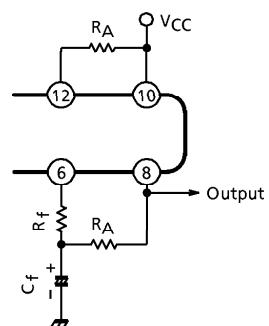

Fig.3
1) In case of the battery use ( $V_{CC} \leq 6V$ ), this IC is happen to oscillate (blocking oscillation) when the impedance of power supply is high. In this case, it is recommended to insert the resistance  $R_A$  of  $500\Omega \sim 1k\Omega$  between ⑩pin and ⑫pin ( $V_{CC}$  – Filter II). By this method, this IC becomes very stable. But the output DC voltage is not center by the influence of  $R_A$ . Then the output wave shape is not symmetrical clipping wave and the maximum output voltage is reduced. So we recommend to insert the other resistance  $R_B$  between ⑥pin and ⑧pin for compensating the output DC voltage.
2) When you use this IC at the supply voltage of more than 6V, it is better to insert the resistance  $R_B$  for compensating output DC voltage. (Fig.3)